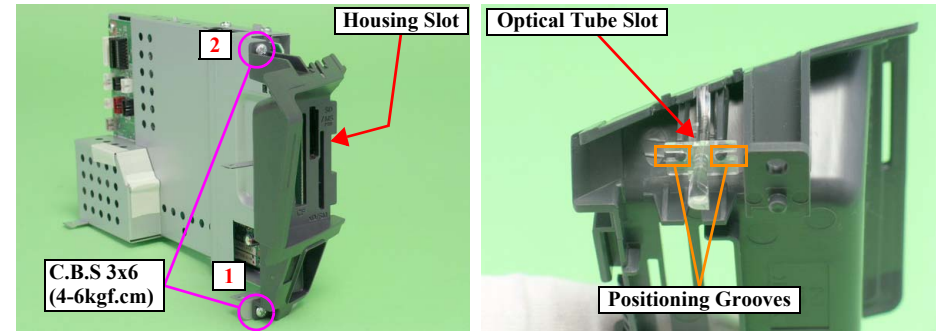

Figure 2-26. Removing the Main Board Assy. (3)
- Set the two positioning grooves (□) of the Optical Tube Slot onto the two guide pins. See Figure 2-26.
- Tighten the screws to secure the Housing Slot in the order shown in Figure 2-26.